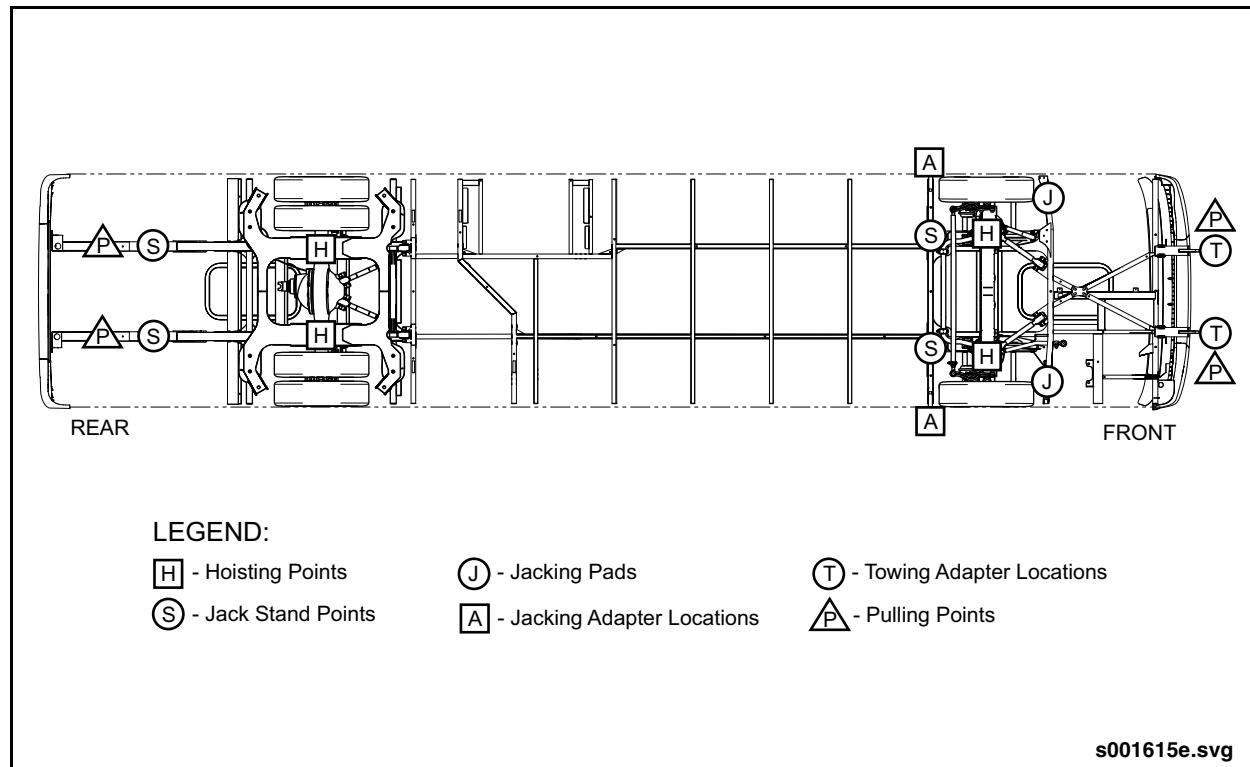

Fig. GI-21: Jacking (hoisting) Points & Stand Placement
- a. Locate the appropriate jack stand point under the frame rail at the rear of the vehicle. See "Fig. GI-21: Jacking (hoisting) Points & Stand Placement" on page 44.